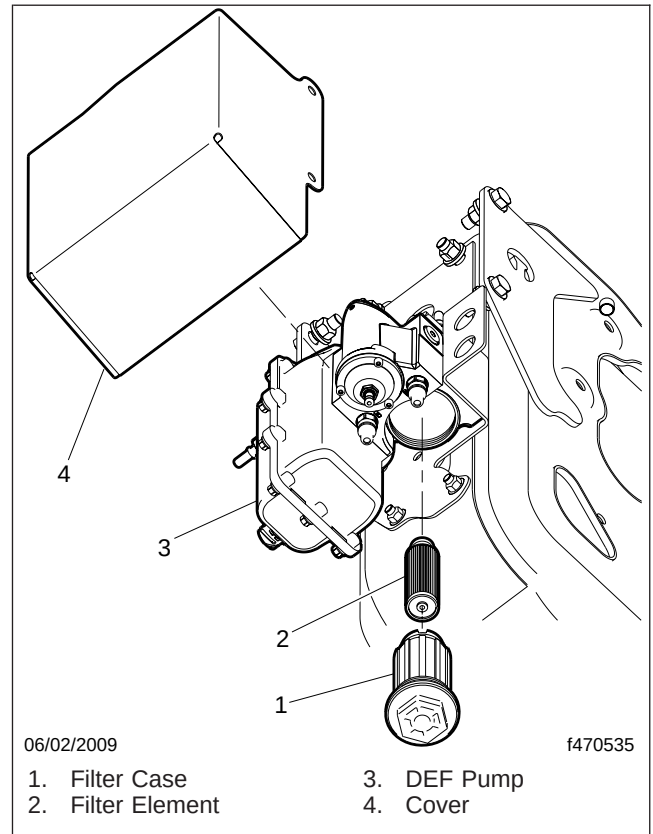

Fig. 1, DEF Filter Replacement, Detroit Diesel Engine
4. Unscrew the filter cartridge; see Fig. 1. The cartridge includes both the filter case and the filter element, which are replaced as a unit. Verify that the filter element was removed with the case. If the filter element was not removed, use a suitable tool to remove it from the pump.